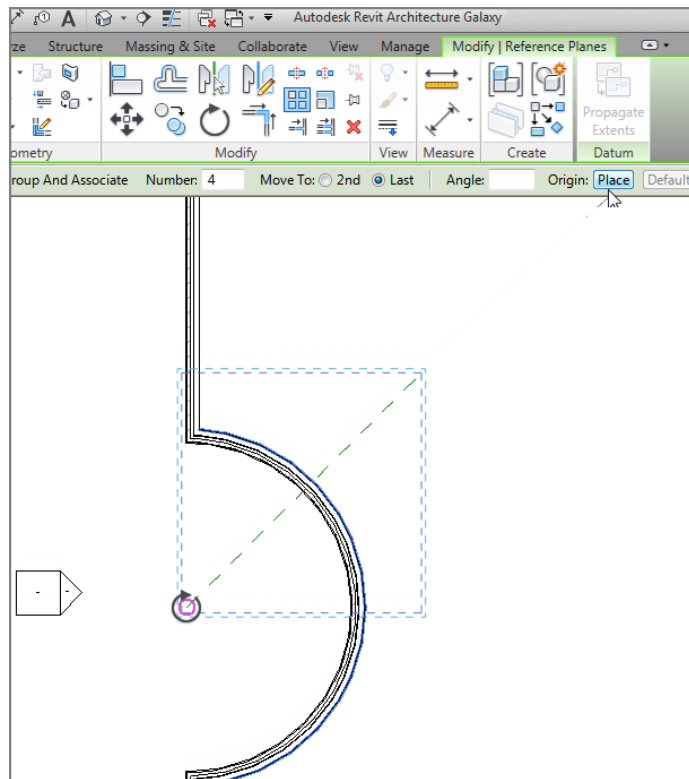

FIGURE 4.13: Place the pivot icon on the endpoint of the item being arrayed.
8. On the Options bar, click the Place button. It's located next to the Origin label, as shown in Figure 4.13.
9. Click the center/endpoint of the reference plane (see Figure 4.13).